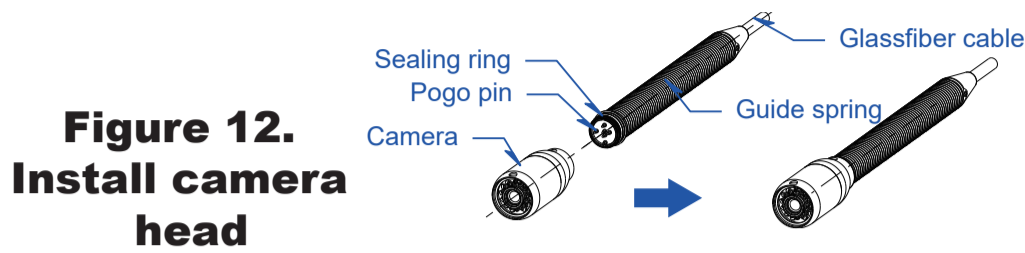

Figure 12.
1. Install Camera Head (See Figure 12)